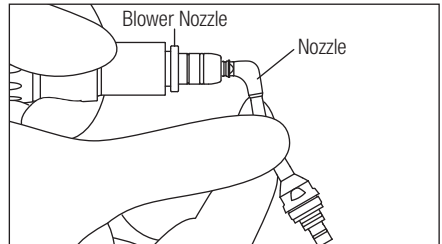

Fig. 16
- 5) Connect the Blower Nozzle to the Nozzle end (Fig. 16) and idle with air alone. Residual powder in the Nozzle will be discharged.